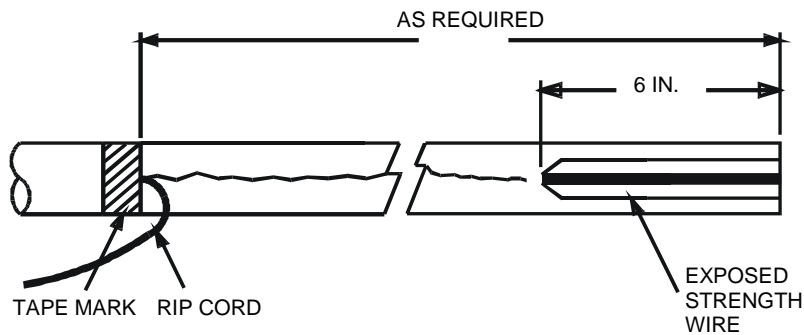

Figure 1 – Opening the outer cable jacket.
1. Consult the closure instructions for the length of cable jacket that must be removed. Place a tape mark at the required length from the end of the cable (Figure 1).
3. At the end of the cable, shave off about 6 inches of the outer jacket to expose the strength members and ripcords (Figure 1).
4. Pull each ripcord through the outer jacket to the tape mark (Figure 1).